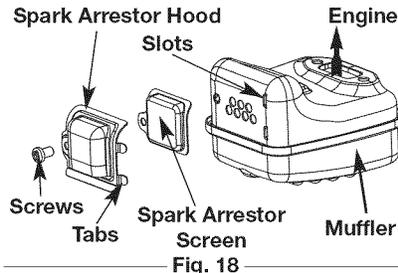

Fig. 18
2. Locate the muffler, **but do not remove it**. Find the screw on the bottom of the muffler (Fig. 18). Remove this screw using either a Torx T-20 or flat blade screwdriver.
6. Place the spark arrestor hood on top of the spark arrestor plate with the "raised" side up and the opening facing AWAY from the engine (Fig. 18). Verify that the exhaust will be directed AWAY from the engine.